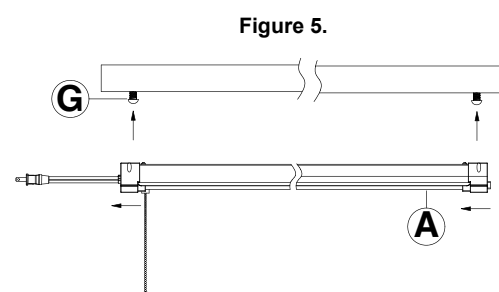

Figure 5.
2. Align shop light to the screws and slide to one side to secure it in place. The shop light should be firmly fixed against the screws. If not firmly fixed, remove the shop light and tighten the screws to a smaller gap distance to the surface. See Figure 5.